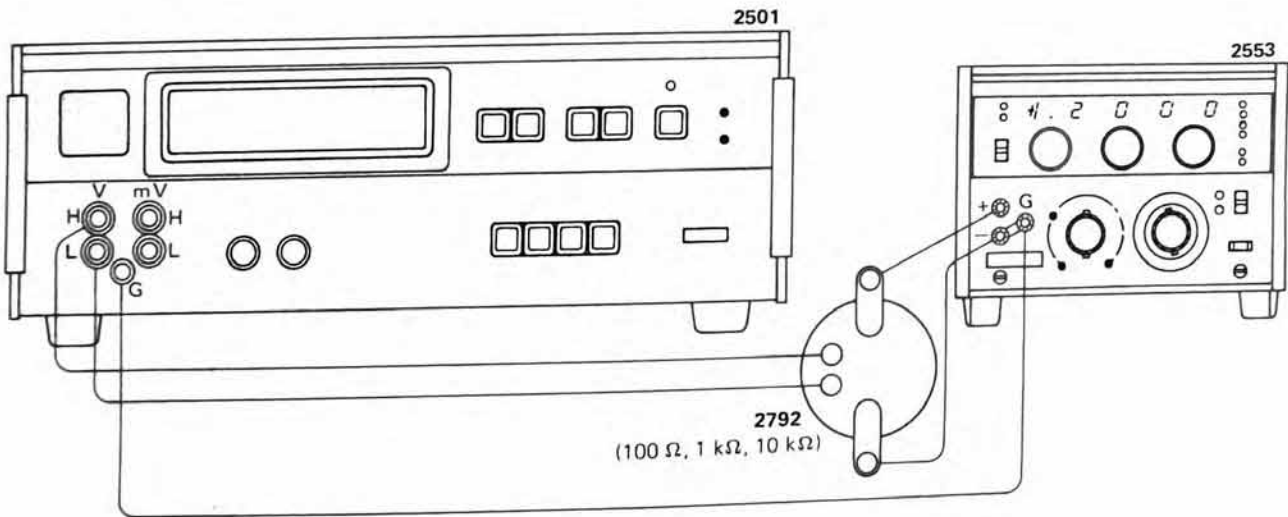

Figure 2-3. Setup for Current Output Accuracy Inspection.
- a) Connect this instrument, Type 2501 and Type 2792 as shown in Figure 2-3 and measure voltage drops across the voltage terminals of the Type 2792 at each setting given in Table 2-2 by the Type 2501.